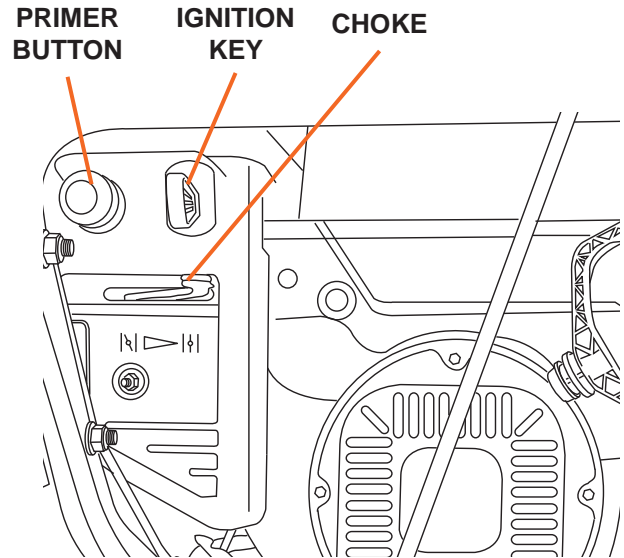

Figure 8
1. To start a cold engine, move the choke to the **CHOKE** position (to the left). To restart a warm engine, leave the Choke in the **RUN** position (to the right). (See Figure 8).